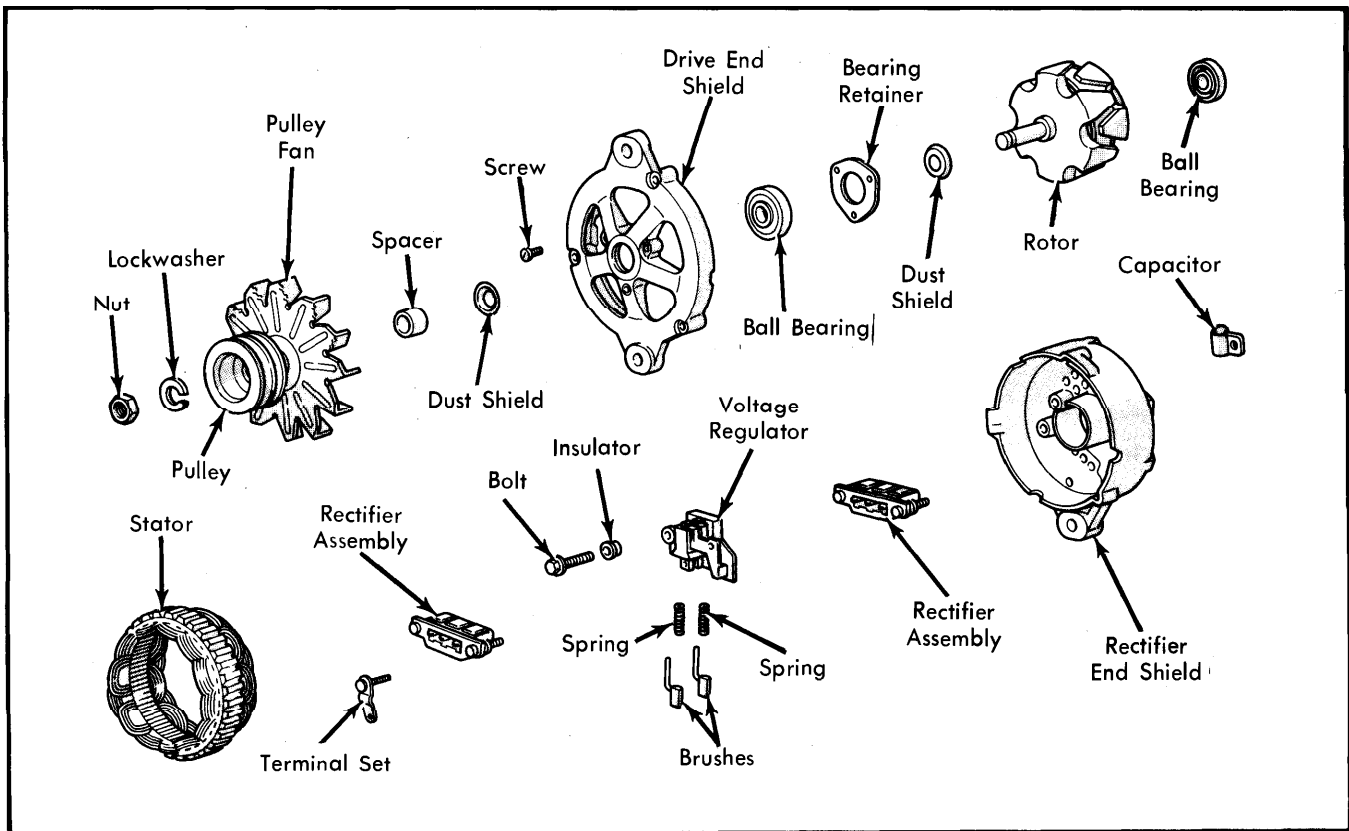

Fig. 4 Exploded View of Chrysler Corp. (Mitsubishi) Alternator
1) Remove alternator and place mounting lug in soft-jawed vise. Remove 3 through bolts. Pry between stator and drive end shield with screwdriver blade, and carefully separate drive end shield, pulley and rotor assembly from stator and rectifier end shield assembly. See Fig. 4.